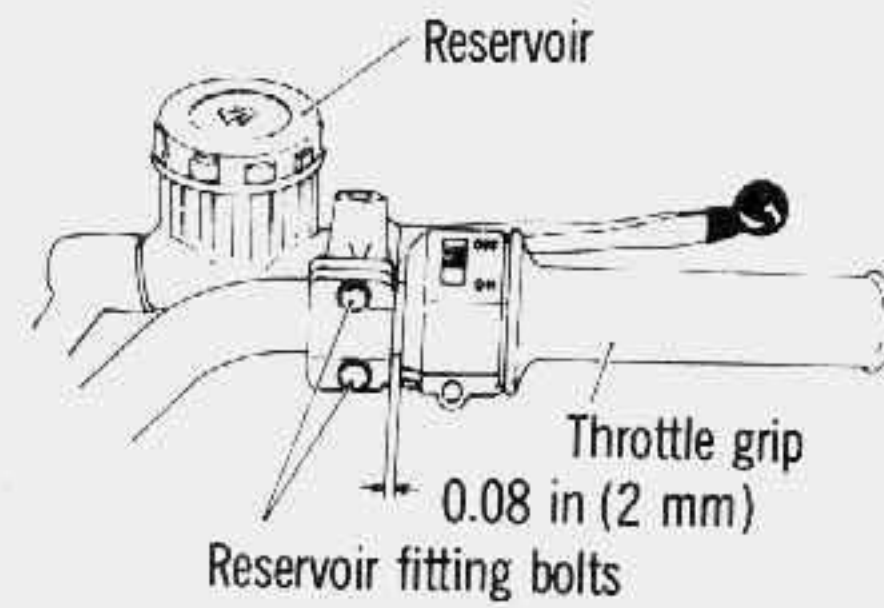

Fig. 8-2-19.
- Mount the master cylinder to the handlebar so that a gap between it and the switch box is about 2 mm (0.08 in.) and the reservoir becomes horizontal when the motorcycle is held on the center stand and steering is kept in a straight-on direction. Refer to Fig. 8-2-19.